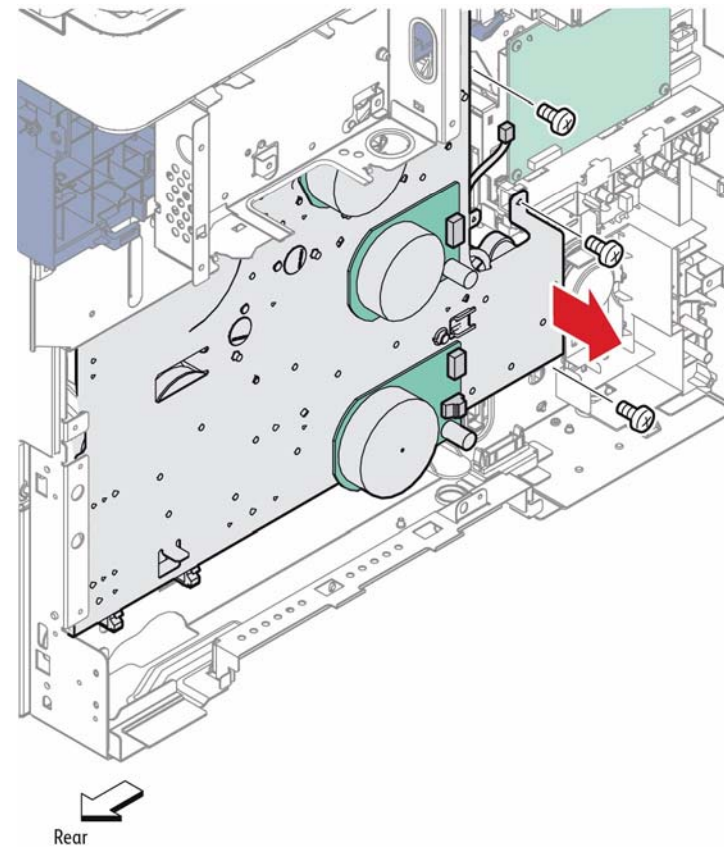

Figure 1 Remove Indicated Screws from the Main Drive Assembly
2. Refer to Figure 1 to locate and remove the front three screws (silver, 6 mm) from the Main Drive Assembly (REP 3.1.1), so that the front of the assembly can be flexed away from the frame about 1/4 inch.